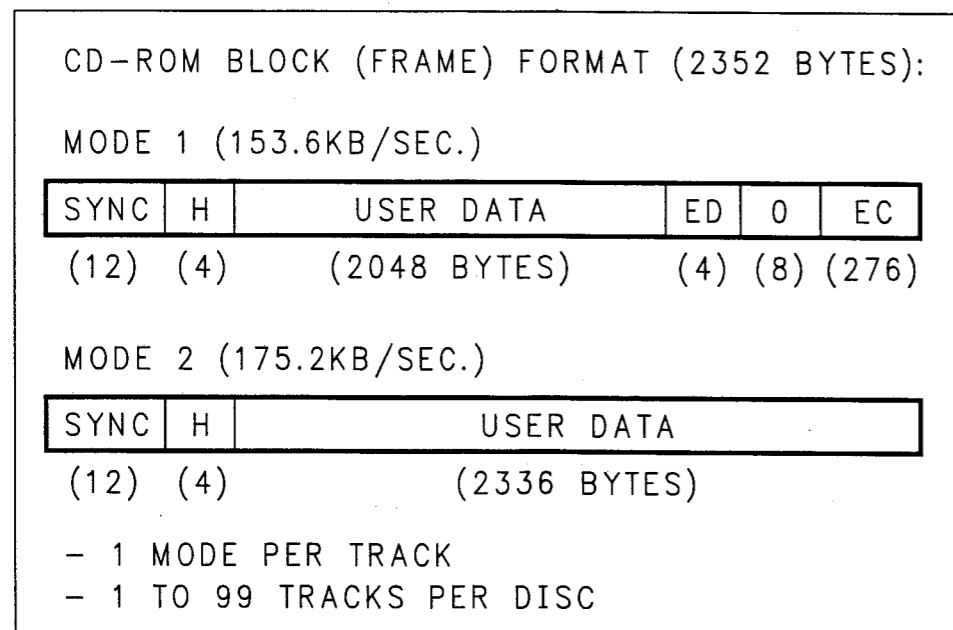

Figure 5 - CD-ROM Sector
The sector contains synchronization, address and mode information. In addition, a sector contains a user data area of either 2048 bytes for Mode 1 or 2336 bytes for Mode 2 (See Figure 5). The difference between these two modes is that Mode 1 uses 288 bytes to provide an additional level of error detection (ED) and error correction (EC). This ensures a level of data integrity essential for critical information that does not degrade gracefully, such as text and binary data typically contained in databases. Mode 2 trades this benefit of additional data security for a maximum data transfer rate by making the additional 288 byte area available as user data. In this case the EFM is adequate for error protection of data such as video and audio encoded information that degrade gracefully.